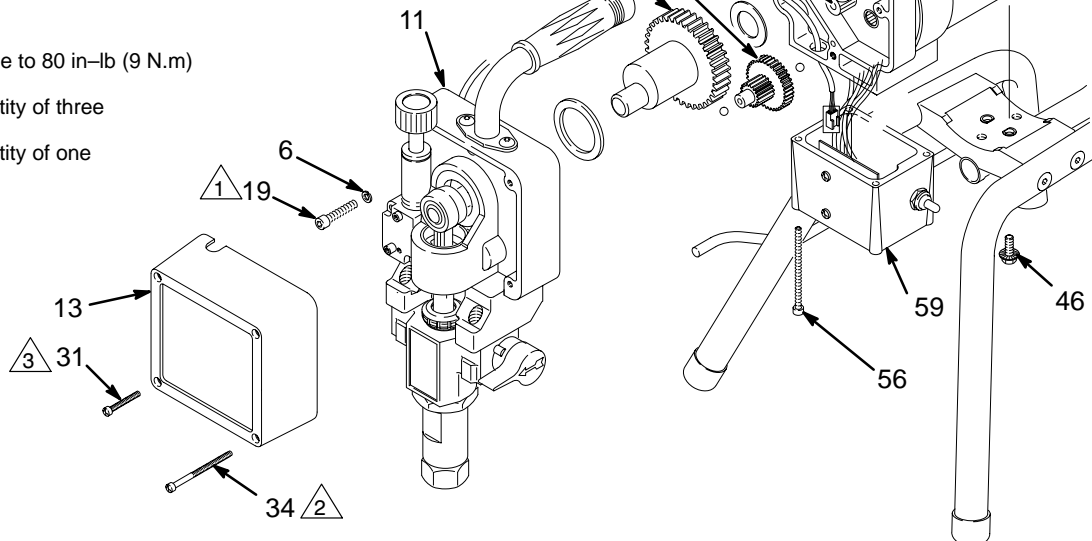
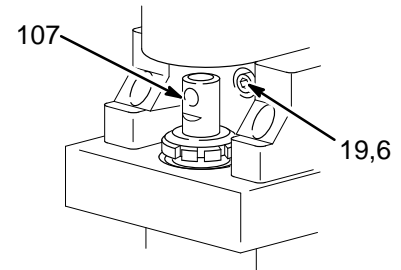
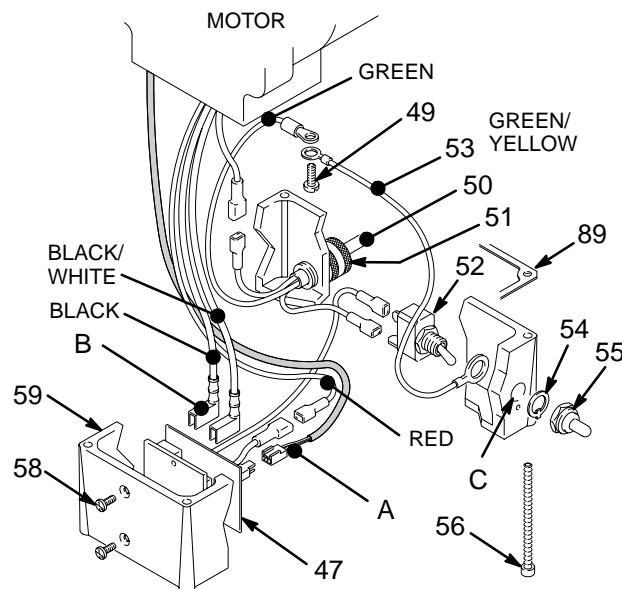

Fig. 25
Fig. 24
Fig. 26
NOTE: See Fig. 25 except where noted.
3. Remove the screws (56) and lower the junction box (59). Disconnect the motor wires and the pressure control wire (A) from the motor start board. Refer to Fig. 26 on page 26.
4. Remove the front cover (13).
5. Turn the displacement pump rod (107) so the pin hole aligns with the bottom drive housing screw (19). See Fig. 24. Remove the three drive housing screws and lockwashers (19,6). Also see Fig. 25.
6. Remove the two motor screws (5) and the lock washers (6).
7. Tap the lower rear of the drive housing (11) with a plastic mallet to loosen the motor. Pull the drive housing straight off the motor while guiding the harness (A) from the motor. Do not allow the gear (16) to fall. Read the CAUTION on page 27.
8. Remove the two screws (46) and lift the motor off the base (66).
9. Align the new motor with the base and reinstall the screws (46).
11. Connect the wires in the junction box. Refer to Fig. 26 on page 26. Install the junction box.
12. Connect the piston rod (107) to the drive housing; see page 21, **Installing the Pump**, Step 2 and the WARNING following it.
NOTE: See Fig. 26 for this procedure.